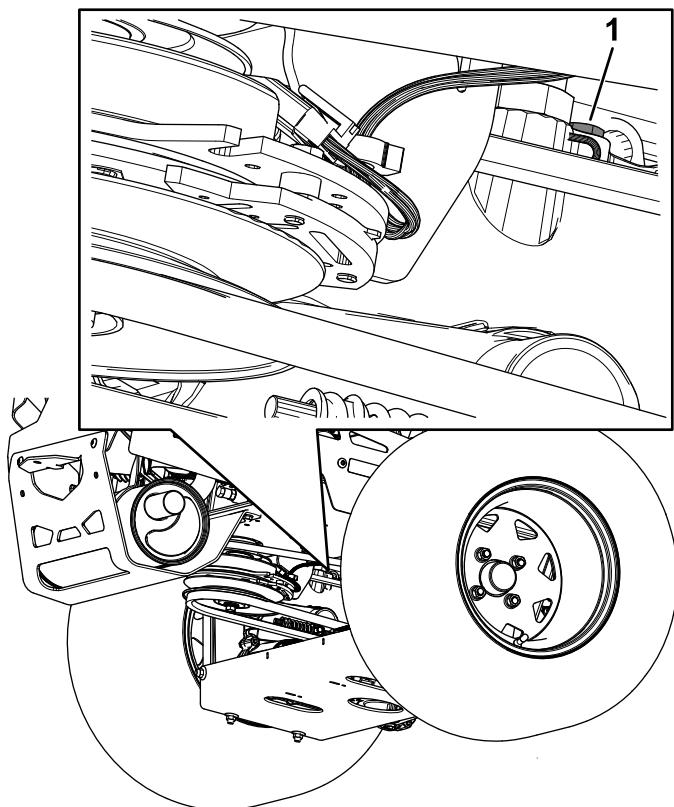

Figure 77
- **For ZT 5400 Hydros,** use a 7/16-inch wrench to access the vent plug from underneath the machine (Figure 77).